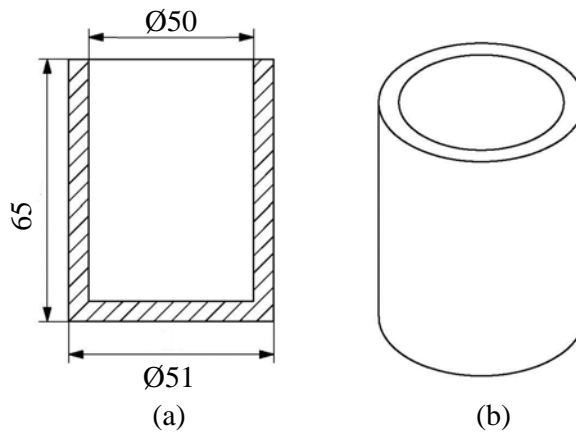

Figure Q1(B): (a) Detail dimension (b) final product
B. A 0.5 mm thick metal sheet is to be drawn with a limiting drawing ratio (LDR) of 1.8 to produce a cup (refer Figure Q1(B)) with an inside diameter of 50 mm and a height of 65 mm. Tensile strength is 175 MPa. Assume the thickness of the bottom and the walls of the cup remain unchanged.